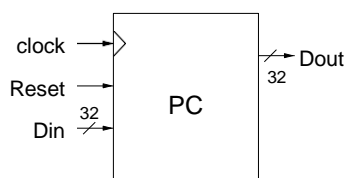

Figure 2: Program counter register (PC)
- The Program Counter (PC) (Figure 2)